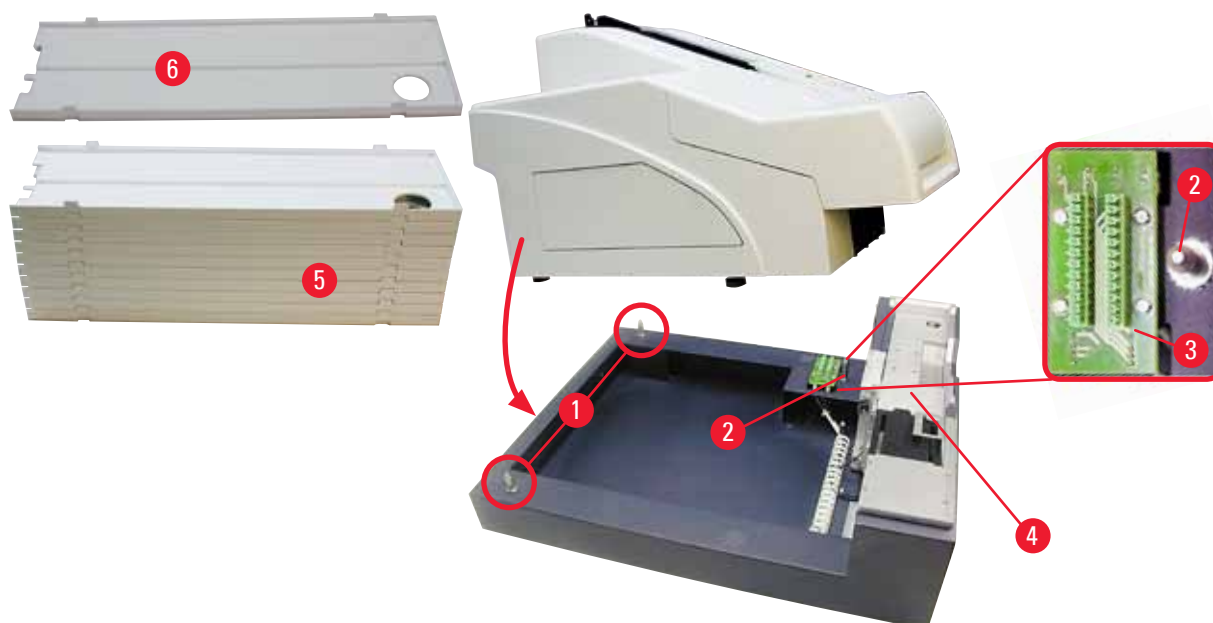

Fig. 12
3. Hold the printer on both sides (right and left) and place it so that the two rear bolts (→ "Fig. 12-1") fit into the baseplate first, as shown in (→ "Fig. 12").